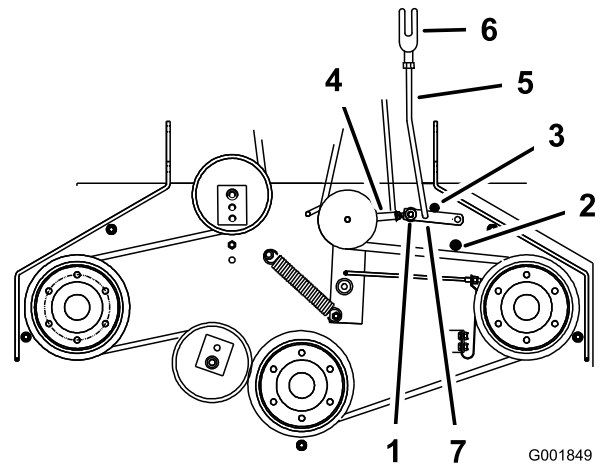

Figure 57
5. Make sure the assist arm is against the rear assist arm stop on the deck (Figure 57).
7. The assist arm should contact the front assist arm stop on the deck. If it does not contact, adjust the bellcrank so it is closer to the gusset (Figure 57).
8. To adjust the assist arm link, remove the hairpin cotter pin from the assist arm (Figure 57).
11. Install the assist arm link into the assist arm and secure it with the hairpin cotter pin (Figure 57).